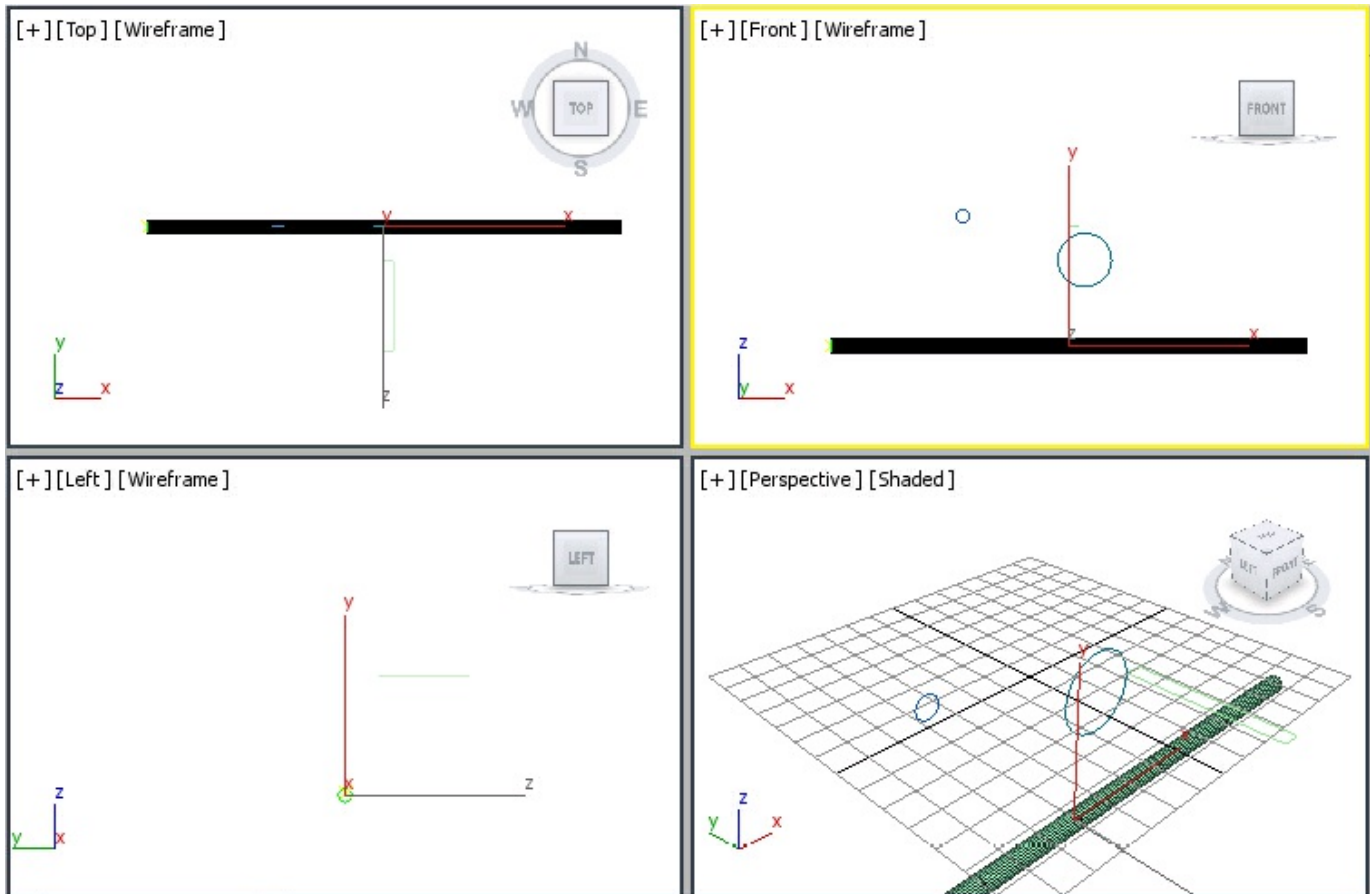

Figure 11-62 A shape created along the path spline (Line001)
11. In the **Creation Method** rollout, choose the **Get Shape** button and move the cursor over *Circle001* in the Front viewport; the shape of the cursor changes. Now, select *Circle001*; a shape is created, as shown in Figure 11-62. The new shape is automatically named as *Loft001*.